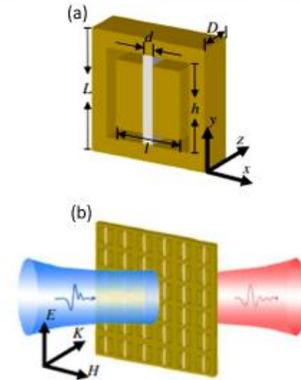

Fig. 6: (a) Geometric structure of a unit cell; and (b) Schematic view of the device
- Structure: (shown in fig. (6))
- In the device structure, the unit cell is arranged in a square lattice with a period of  $120 \mu\text{m}$ . (fig. 6(b))